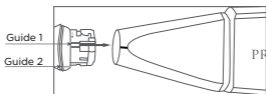
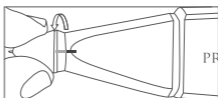

Figure 2a
Figure 2b
2. To insert a new probe tip, position Guide 1 as shown in Figure 2a, slide it in and turn clockwise to align Guide 2 with the guide marked on the main body to secure it as shown in Figure 2b.